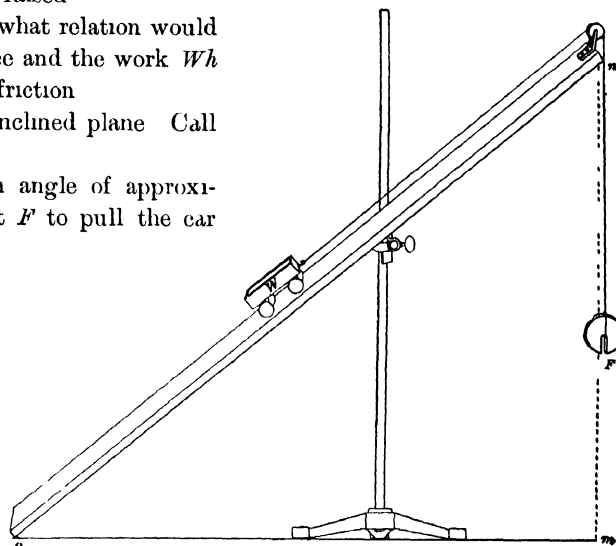

FIG. 34
**I. Principle of work.** Since the work which a force accomplishes is equal to the product of the force by the distance through which it moves the point upon which it acts, the work done by a force  $F$  (Fig 34) in moving a mass a distance  $l$  ( $= on$ ) up the inclined plane  $on$  is equal to  $Fl$ . But the work done against gravity is equal to the product of the weight  $W$  which is moved times the vertical height  $h$  ( $= mn$ ) through which  $W$  has been raised